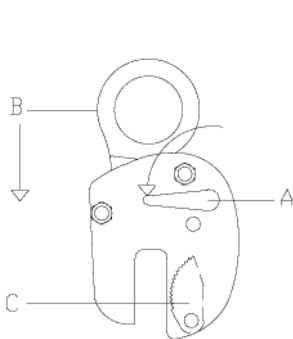

Figure 6
11. Never lift material with the handle in the “open” position (Fig. 6).
2. For the “VL” series Safety Clamps, open the jaw by releasing the locking handle down (A, Fig. 6), and pushing shackle (B) into the clamp until the lock engages and gripping cams (C) are in the raised position clear of the jaw opening. If using a clamp with the **auxiliary lock**, push the auxiliary lock button until the plunger is clear of the locking handle and then release the locking handle down.
- Never lift material with the handle in the “open” position (Fig. 6).